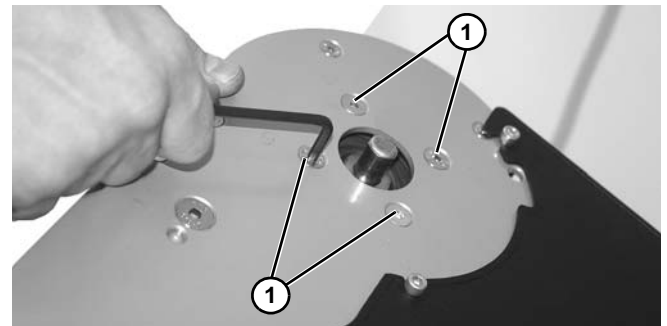

Figure 49
3. Remove four socket head screws (**Figure 49, item 1**) on side of drive spindle.